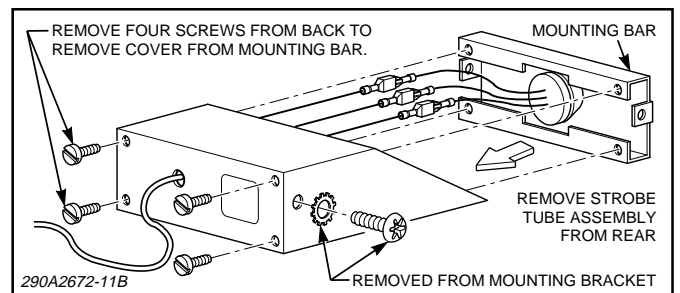

Figure 4.
- c. See figure 4. Remove and retain the screws which secure the back cover to the mounting bar.